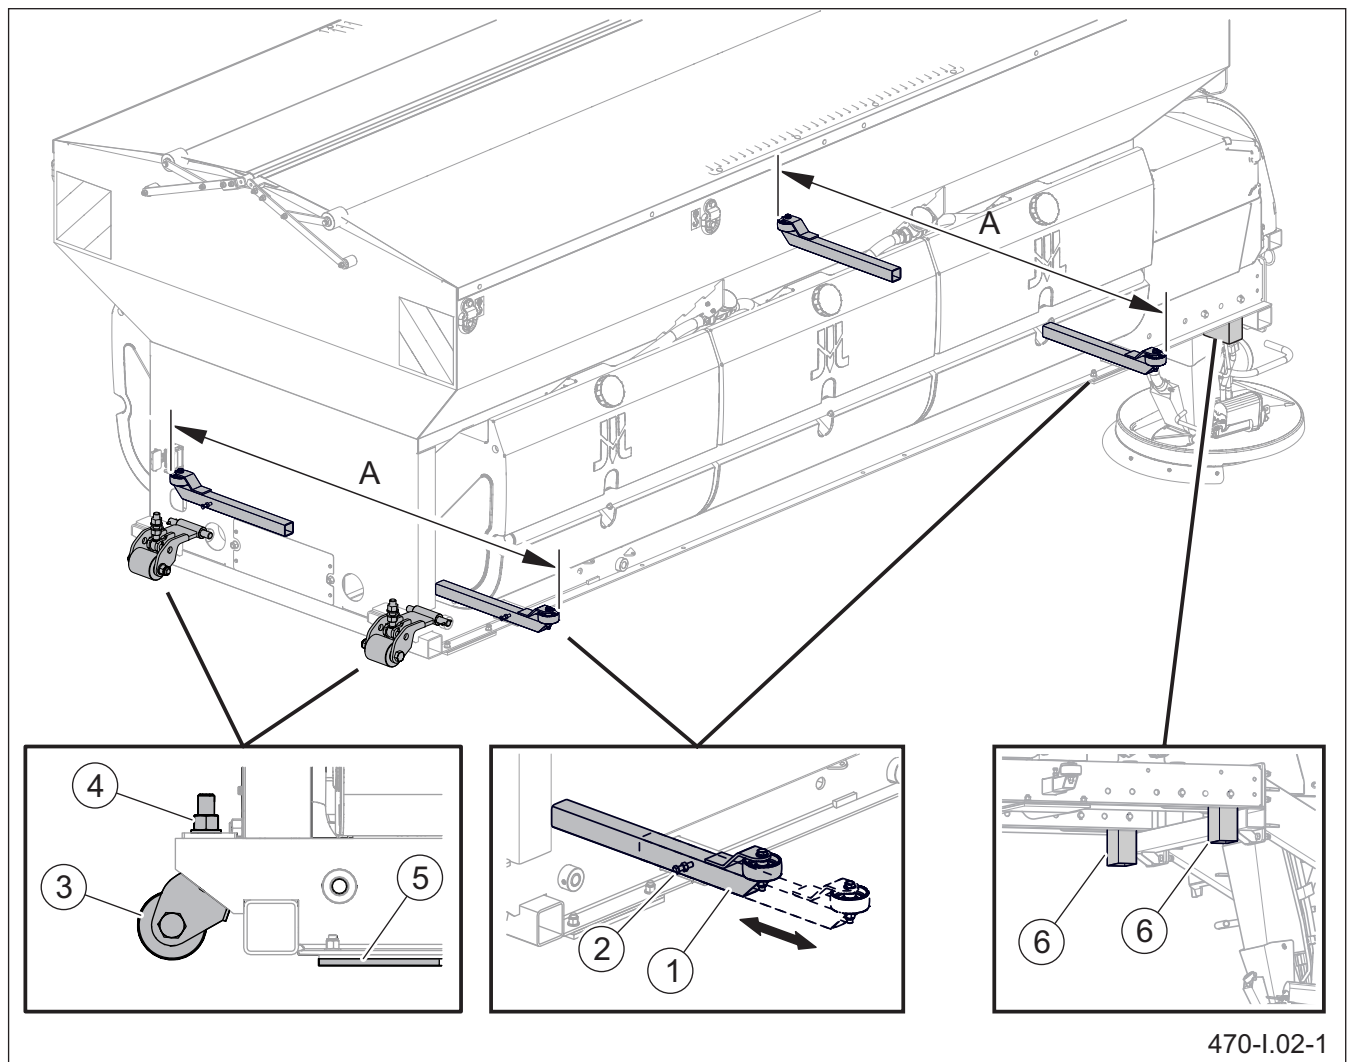

Figure 5.2 Guides
To set the sand spreader position on the carrier platform with side walls, use adjustable guides (2) with wheels (figure 5.2) and stops (7) installed from the bottom of
- (1) guide
- (2) compression bolt
- (3) roller
- (4) roller adjustment
- (5) rubber lining
- (6) bumper
- (A) dimension slightly smaller than the width of the load box
the frame in the rear of the machine. Set the front and rear guides (1) so as to ensure that dimension (A) is slightly smaller than the internal width of the carrier vehicle load box (figure 5.2).
Raise the carrier load box until it rests on the rollers (3) (Figure 5.2).
Unlock the front parking stands (4) on both sides of the machine (figure 5.2) by unlocking cotter pins (6) and
Guides (Figure 5.2) are used in carrier vehicles which have sufficiently strong side walls of the load box. The use of guides depends on how the machine is mounted on the load box (see MOUNT THE MACHINE ON THE CARRIER PLATFORM).